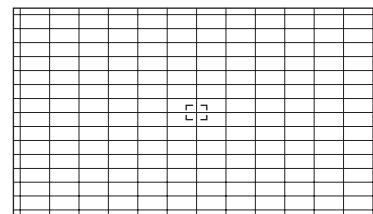

Fig.1
- (1) Press the [MENU] key, and select the "CONVERGENCE" in the Picture Adjust menu with [function up/down] key.
- (2) Press the [function left/right] key, the CONVERGENCE menu appears.
- (3) Press the [function up/down] key, and select the "MANUAL".
- (4) Press the [function left/right] key, then CONVERGENCE adjustment screen appear. [Fig.1]